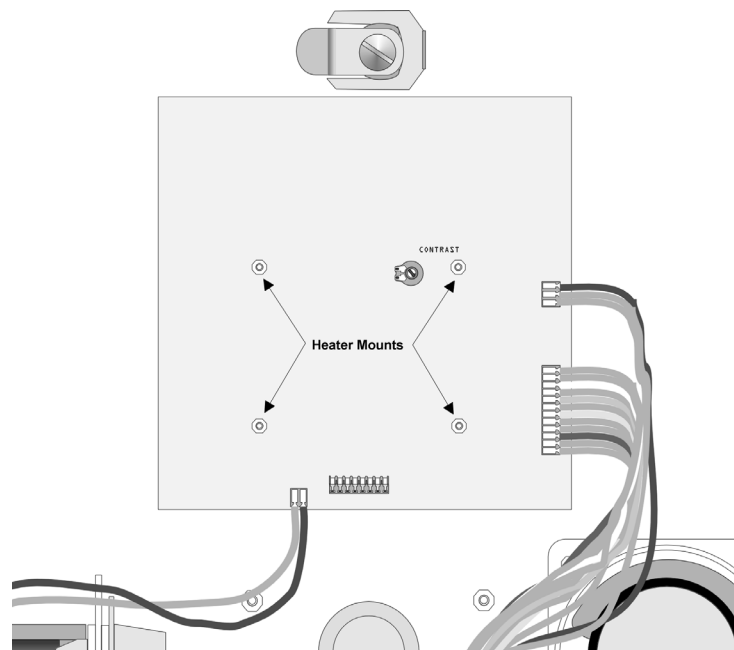

Figure 3-17 Keypad Circuit Board Retaining Nuts
1. Remove the four #6 nuts that retain the keypad circuit board. (See Figure 3-17.)